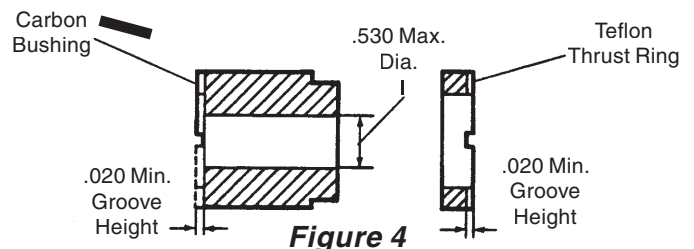

Figure 4
- Check impeller drive bushing (Item 6), thrust ring (Item 4), ceramic thrust rings and shaft for cracks, chips, scoring or excess wear. Refer to Figure 4. Replace as required.
- To remove the bushing, place the impeller assembly (Item 5) in an arbor press. Insert a 3/4" diameter plastic or wood shaft through the eye of the impeller and press bushing out. Refer to Figure 4.